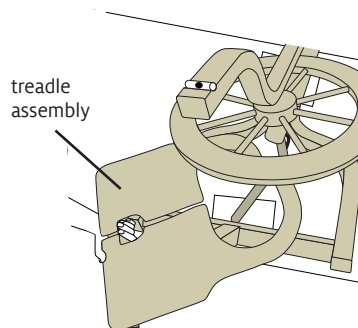

FIGURE 6: POSITION TREADLE ASSEMBLY
**8.** Set the treadle assembly in place: Hold it by the treadle support bar and tilt it, fitting the curved ends and treadle yokes under the drive wheel (Figure 6). Then raise the treadle support bar until the treadles are perpendicular to the work surface, so the notches between the treadles fit around the front leg.